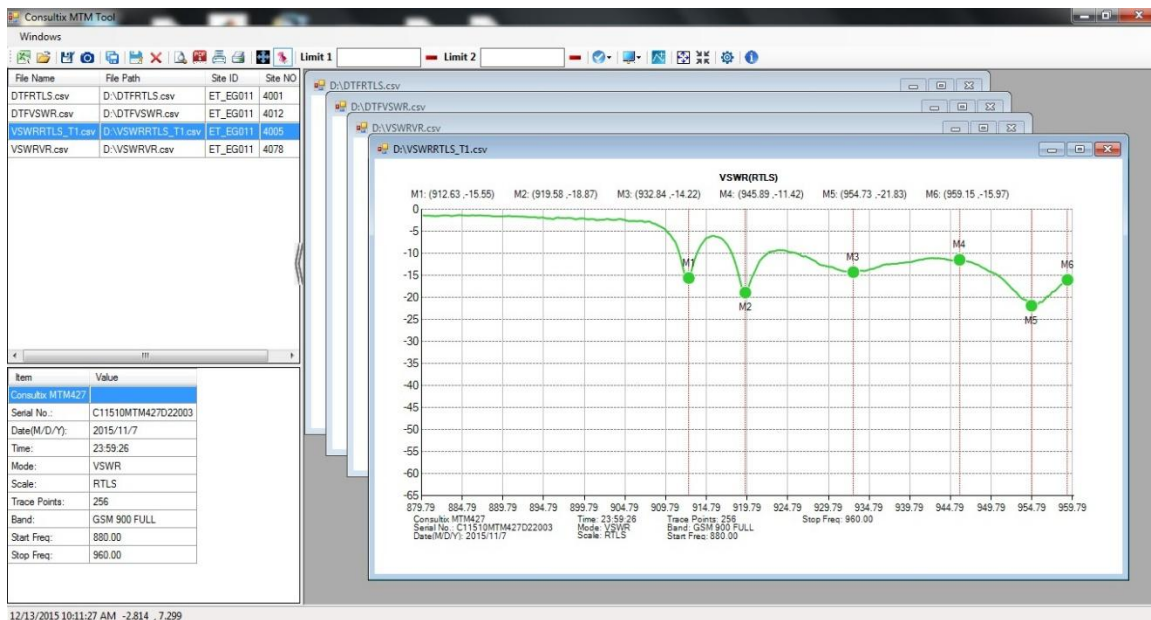

Figure 3, Working on multiple files
- 2- Users can browse and process many measurement files at the same time as shown in figure 3.